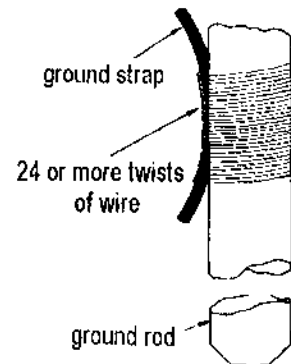

Figure 4 - Temporary connection
5) Never twist or tie a ground wire around a ground rod. If a bolt is not provided and a clamp is not available, the ground strap should be bound to the ground rod with at least 24 tightly wound turns of stripped telephone wire or other bare wire (see figure 4). This connection should then be taped to block out moisture. Use this method for a temporary connection until you can find a clamp.